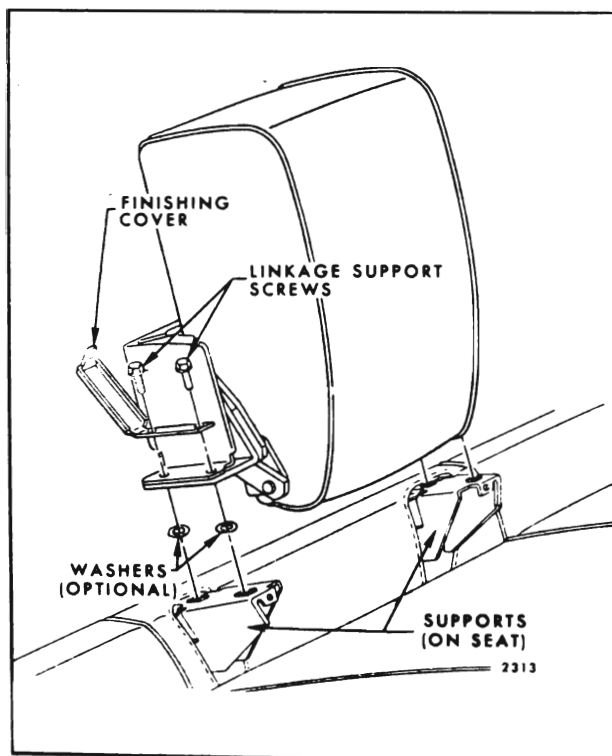

Fig. 15-24—Front Seat Center Arm Rest Support
- Working at rear of seat, push one seat back to full forward position. Carefully pull up front of screw finishing cover sufficiently to expose arm rest support attaching screws; then remove screws (Fig. 15-24). Repeat this operation on opposite side of arm rest; then carefully remove arm rest assembly, including trim panel finishing cover, from seat.
NOTE: If washers are present between arm rest support and supports on seat (Fig. 15-24), note location and number of washers used to facilitate installation in same position. Washer(s) are used to align arm rest to front seat back(s).
- To install, reverse removal procedure. Prior to bending down screw finishing covers check alignment and operation of arm rest. Where necessary to align arm rest with seat back(s) install washer(s), as required, between arm rest support and supports on seat (See Fig. 15-24).
- To install, reverse removal procedure. Prior to bending down support screw finishing covers check alignment and operation of arm rest. Where necessary to align arm rest with seat back(s), install washer(s), as required, between arm rest support and supports on seat (See Fig. 15-24).